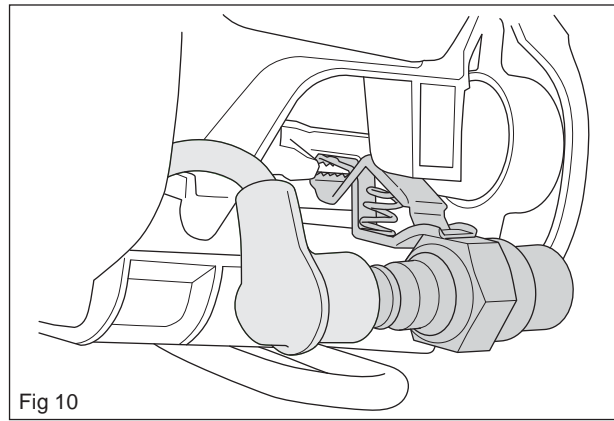

Fig 10
- If a spark appears on the test spark plug, the ignition module is free from defect (see figure 10).